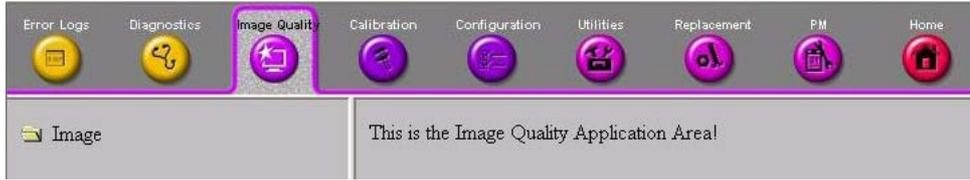

Figure 5-28 Common Service Desktop - Image Quality
A screenshot of the Common Service Desktop Configuration page. The top navigation bar is the same as in Figure 5-28, but the 'Configuration' icon is highlighted with a purple border. The left sidebar shows a folder icon and the text 'Configuration', with a sub-item 'InSite ExC Agent Configuration' highlighted in yellow. The main content area is titled 'Agent Configuration' and contains several fields: Device Name (KE810026), CRM No. (KE810026), Display Name, Description, Continent (EUROPE), Country (AUSTRIA), Addr Line1, Addr Line2, City (ZIPF), State(Prov) (TIEFENBACH), Postal Code, Latitude, Longitude, Institution (GE), Department, Building, Floor, and Room. Below this is the 'Advanced Configuration' section with fields for Enterprise Server (PILOT2), Service Center (EURO), Log Level (WARN), Enterprise Server URL, Enterprise Tunnel URL, File Repository, File Watcher (Enable), Dir (D:\export), and Filter (*.zip). The 'Proxy Configuration' section includes Proxy (Enable), IP Addr (3.243.134.45), Port (88), Proxy Authentication (Disable), Schema (NONE), Proxy User, and Password. At the bottom are 'Submit Changes' and 'Reset Form' buttons.